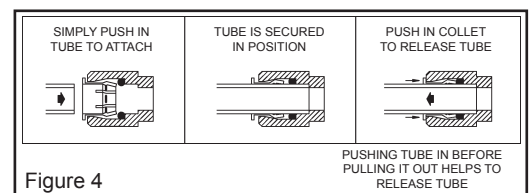

Figure 4
5. Actuation of Quick Connect Water Fittings: Cooler is provided with lead-free connectors which utilize an o-ring seal. To remove tubing from the fittings, relieve water pressure and push in on gray collar while pulling on the tubing. To insert tubing, push tube straight into fitting until it reaches a positive stop, approximately 3/4" (19mm). See Figure 4.